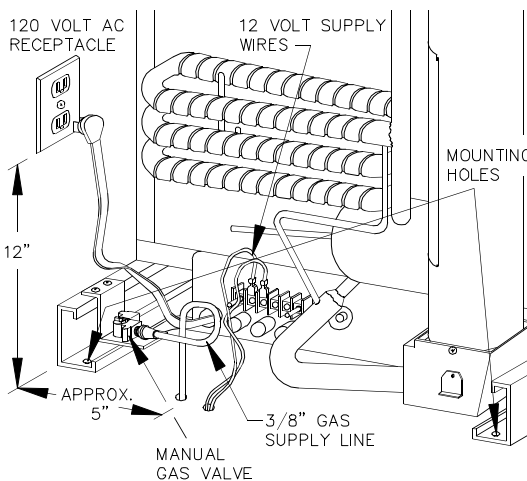

Figure 9 Rear View
The free length of the refrigerator's AC power cord is 24 inches. It is recommended that the three-prong grounded receptacle be located to the left side of the refrigerator (viewed from rear) and approximately 12 inches from the floor (see Figure 9 above). The AC power cord must be routed so as not to contact the refrigerator's burner, flue pipe, or any other component which could damage the cord insulation.
supply connects to the terminal block at the rear of the refrigerator (See Figure 9 on page 8). The 12 volt DC should enter the refrigerator's enclosure near the refrigerator's terminal block. The 12 volt DC connects at (2) one quarter inch quick connects. The positive DC input lead connects to terminal marked (+), and the DC ground input lead connects to terminal marked (-).